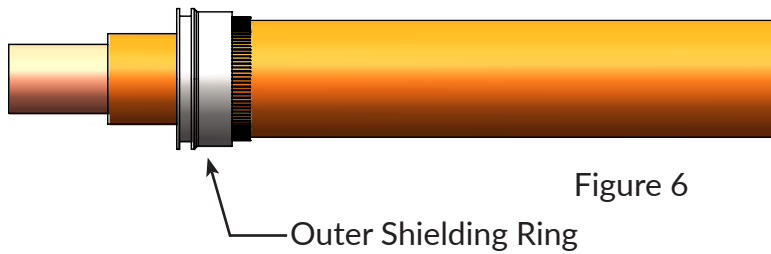

Figure 6
5) As figure 6 shown, move the outer shielding ring in right direction, until can't be moved: